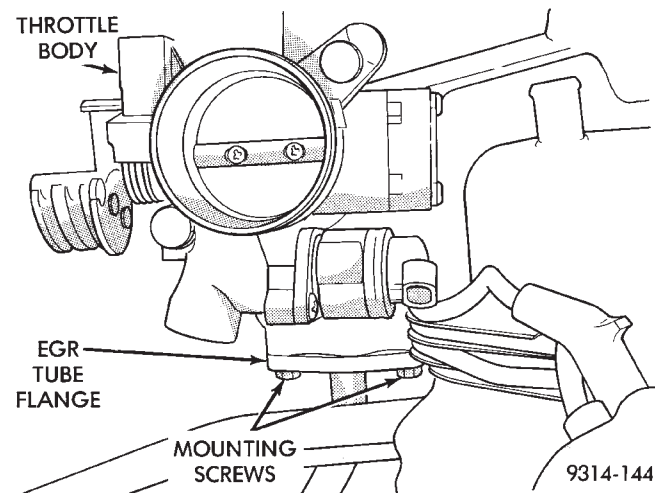

Fig. 15 EGR Tube
(10) Remove EGR tube mounting screws at intake manifold plenum (Fig. 15).